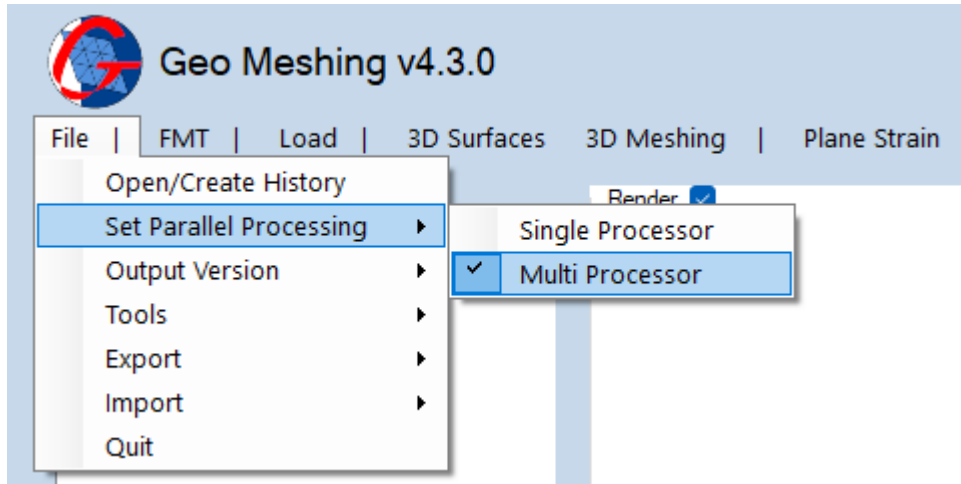

Figure 9: File Menu – Set Number of Processors.
- **File Menu, Set Parallel Processing:** This option (shown in Figure 9) has a submenu with two options.